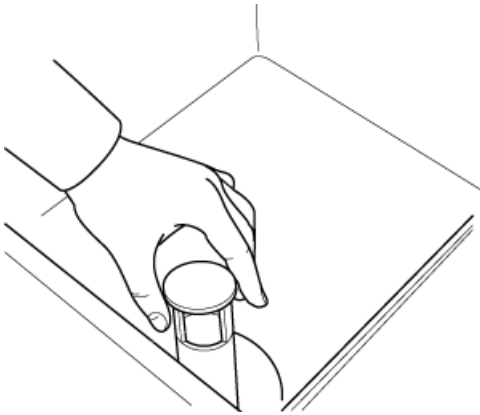

Fig.38
- 2- Open the door and remove the stand pipe. (Fig.38)